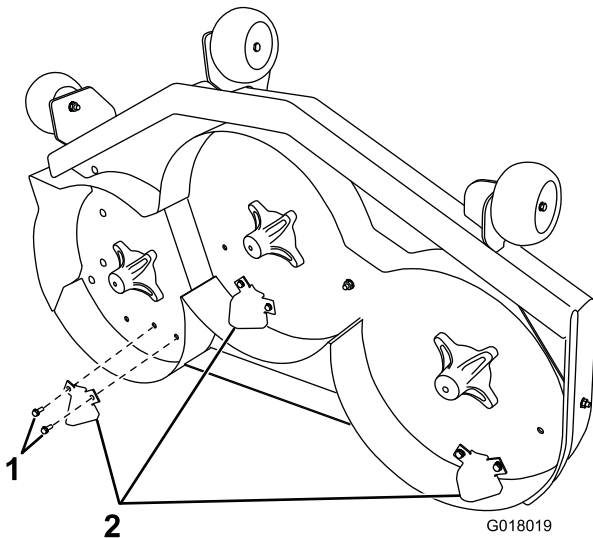

Figure 5
16. Install the kickers to the underside of the mower deck with 6 self-tapping screws (5/16 x 3/4 inch) at the locations shown in Figure 5.